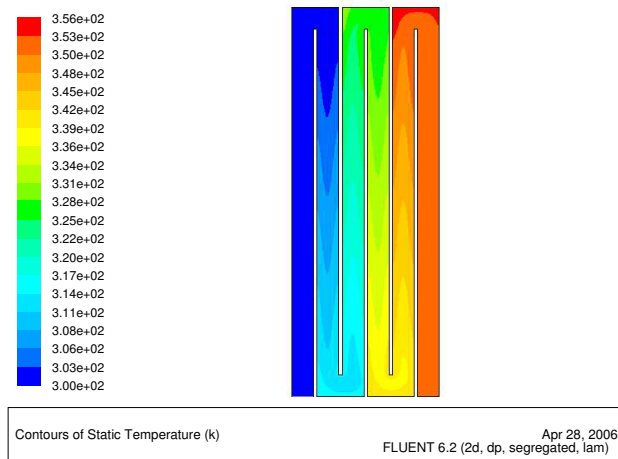

Figure 11.5: Contours of Static Temperature
- 2. Display filled contours of temperature (Figure 11.5).